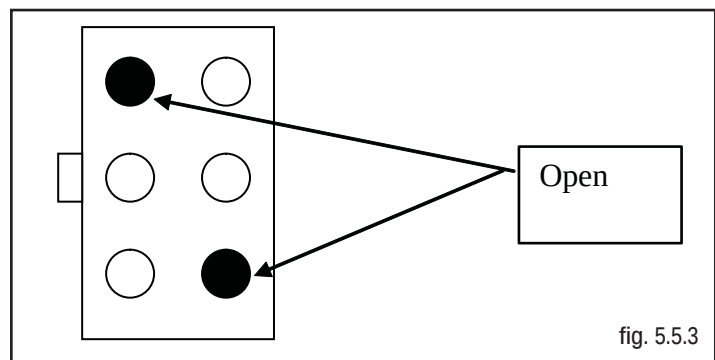

fig. 5.5.3
b. Use the multimeter and measure continuity between the indicated pins on the pin connector mounted on the tilt. When the seat is tilted the indication should be open (fig 5.5.3).